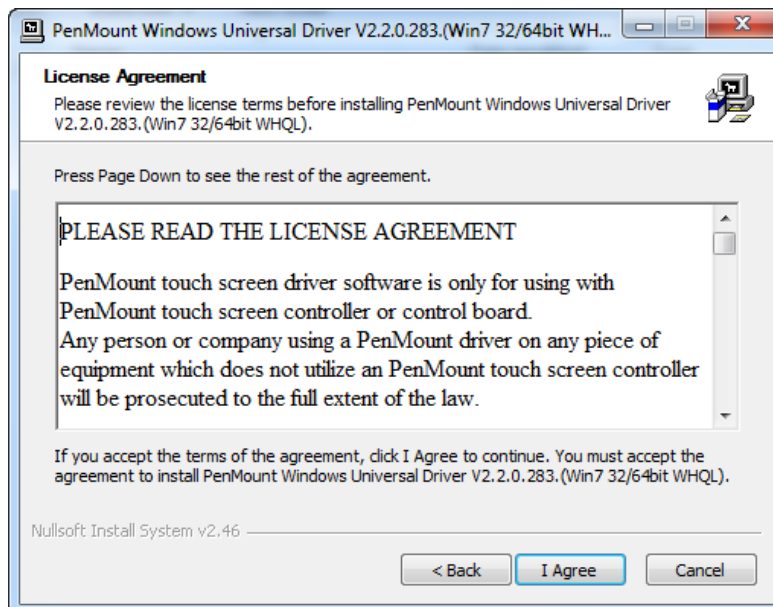

Figure 5-13: Touch Screen Driver License Agreement
Step 6: The **License Agreement** shown in **Figure 5-13** appears.